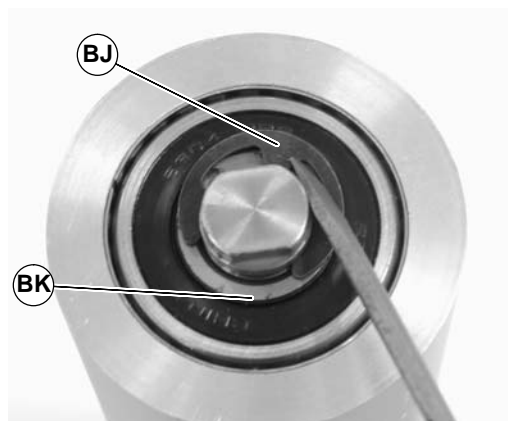

Figure 47
5. Remove the pulley shaft assembly: remove the clip ring (BJ of Figure 47) and washer (BK) from one side of the pulley assembly.